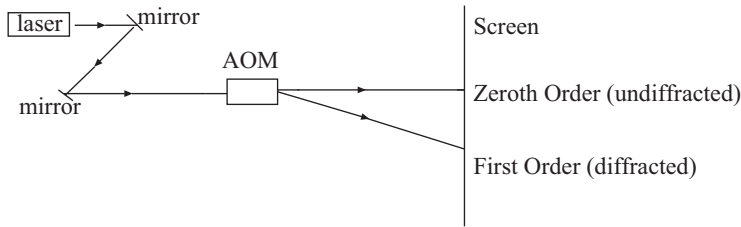

Figure 4: Optical Setup.
Use bases, postholders, and posts to mount the mirrors, laser and AOM on the optical table as shown in figure 4.
- Connect the output of the amplifier to the input of AOM and then turn on the 24 V supply to the amplifier as indicated in figure 4.